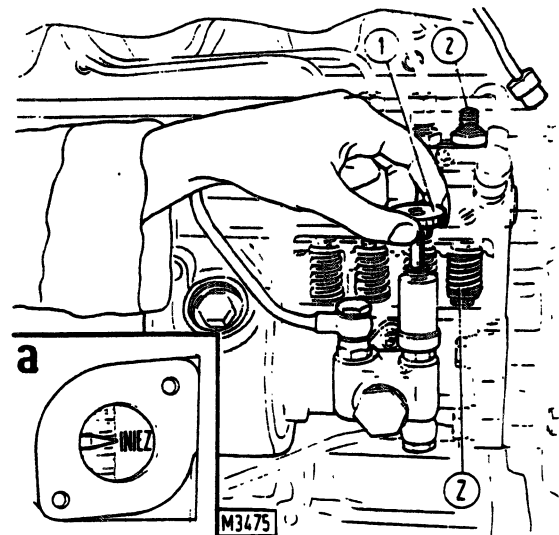

Fig. 70 - Checking injection pump timing with spill test system.
- remove pressure fitting of element No. 1 (2, Fig. 70) and temporarily remove the delivery valve, spring and restrictor plug. Reinstall pressure fitting;
- move accelerator lever to max. position and operate supply pump (1) to bleed the circuit;